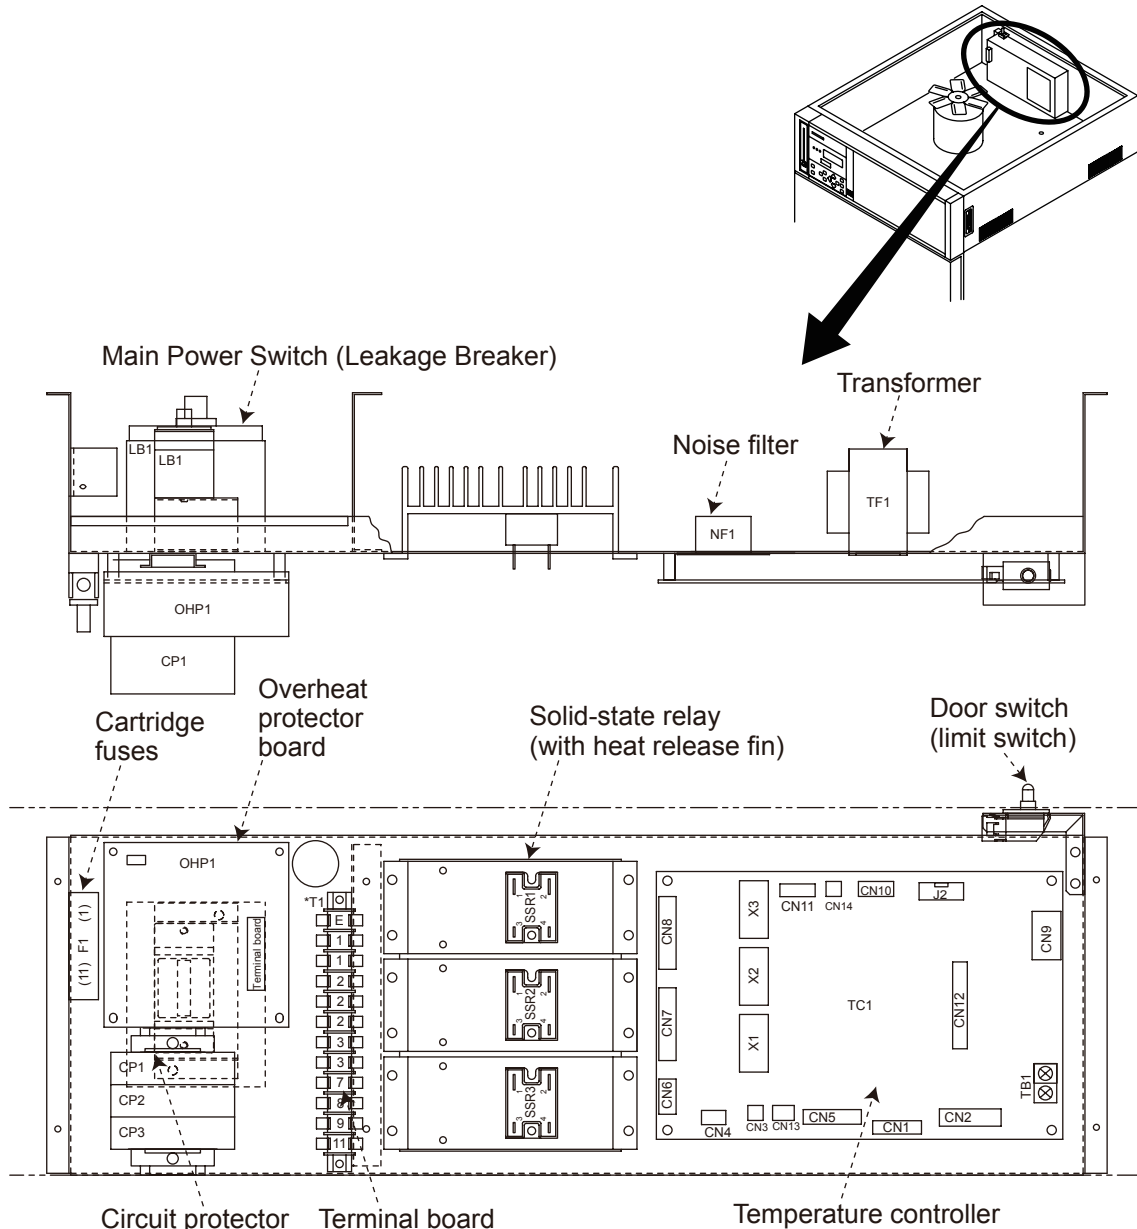

Fig. 5.4 Electric parts chassis layout for all models of PV(H)-212, 222, 232, 332 200V AC
3. Refer the installation location of the electric parts as Fig. 5.4 and replace them as needed. Philips screwdriver